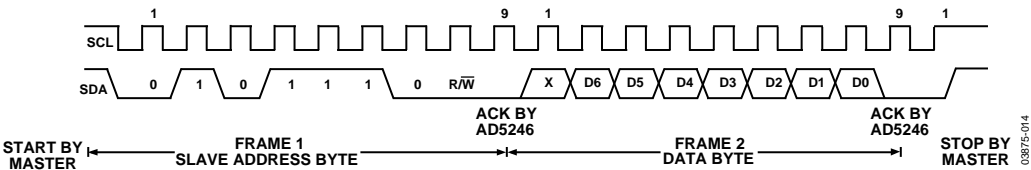
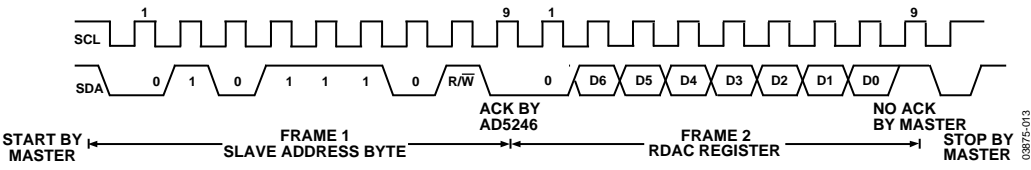

Figure 27. Writing to the RDAC Register
Figure 28. Reading from the RDAC Register
1. The master initiates data transfer by establishing a START condition, which is when a high-to-low transition on the SDA line occurs while SCL is high (see Figure 27). The following byte is the slave address byte, which consists of the 7-bit slave address followed by an R/\overline{W} bit (this bit determines whether data will be read from or written to the slave device).
3. In read mode, after acknowledgment of the slave address byte, data is received over the serial bus in sequences of nine clock pulses (a slight difference from the write mode where eight data bits are followed by an acknowledge bit). Similarly, the transitions on the SDA line must occur during the low period of SCL and remain stable during the high period of SCL (see Figure 28).
4. When all data bits have been read or written, a STOP condition is established by the master. A STOP condition is defined as a low-to-high transition on the SDA line while SCL is high. In write mode, the master pulls the SDA line high during the tenth clock pulse to establish a STOP condition (see Figure 27). In read mode, the master issues a No Acknowledge for the ninth clock pulse (that is, the SDA line remains high). The master then brings the SDA line low before the tenth clock pulse, which goes high to establish a STOP condition (see Figure 28).